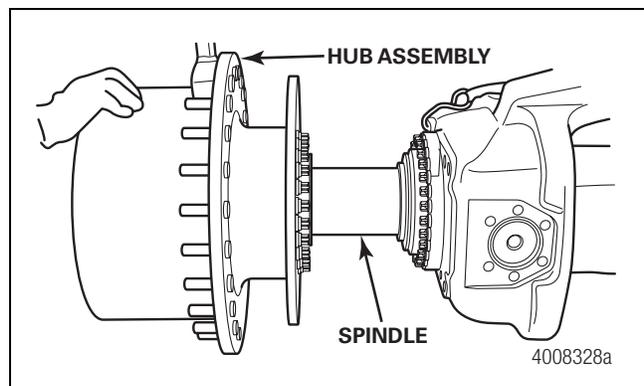

Figure 4.5
7. Use a suitable lifting device to remove the hub assembly from the spindle. Figure 4.5.